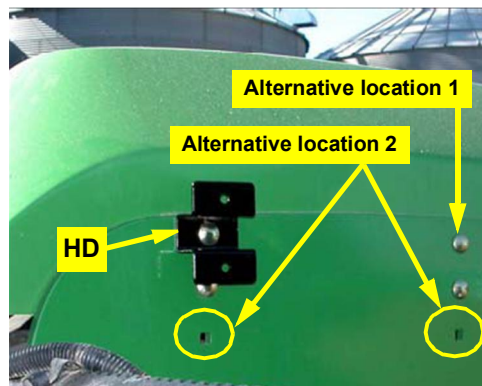

Figure 2b: Installed steering block mounting
b. Install the hydraulic block mounting bracket **HD**, with its block mounting holes vertical, on the fender with the carriage bolt (Figure 2b).
NOTE: If the tractor is equipped with a weight carrier bracket you may need to install the steering block mounting bracket onto the fender at the top rear carriage bolt (Figure 2b, alternative location 1).
Also, if the tractor is equipped with weights on the rear fender, locate the bolt holes (circled) below the carriage bolts and mount the bracket there (Figure 2b, alternative location 2). You will need a carriage bolt similar to those used at the other two possible locations.